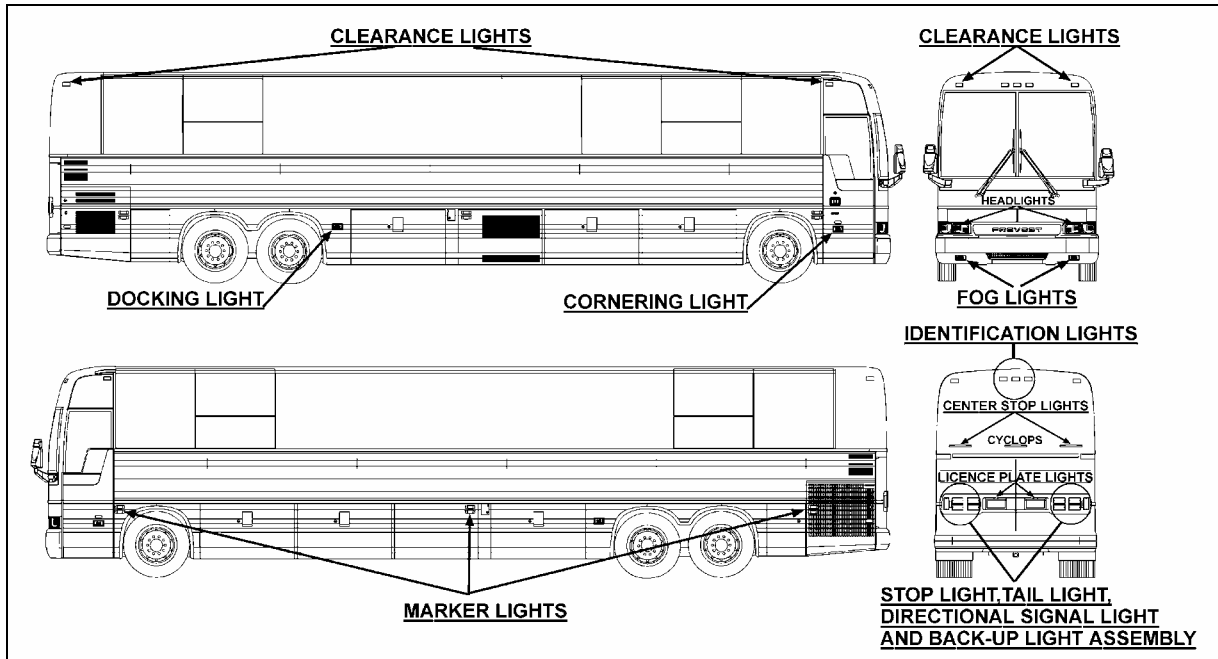

FIGURE 60: VARIOUS LIGHTS LOCATION
3. To install a new switch, reverse the procedure (Fig. 60).